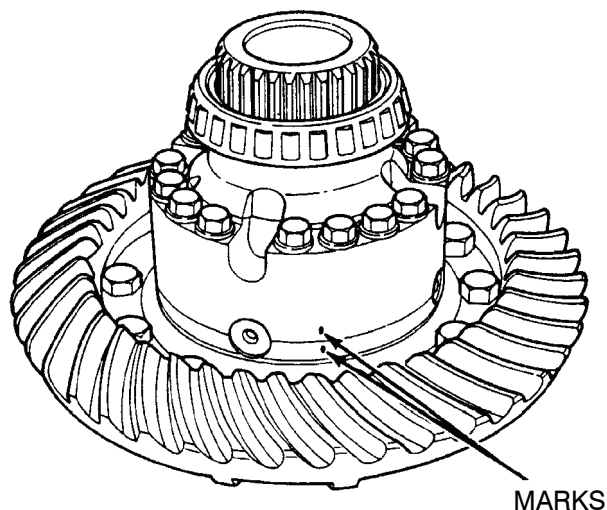

Figure 33. Alignment Marks.
- (1) If the alignment marks on the case halves are not visible, use a punch and a hammer to mark the case halves. The alignment marks permit correct assembly of the case halves. Figure 33.